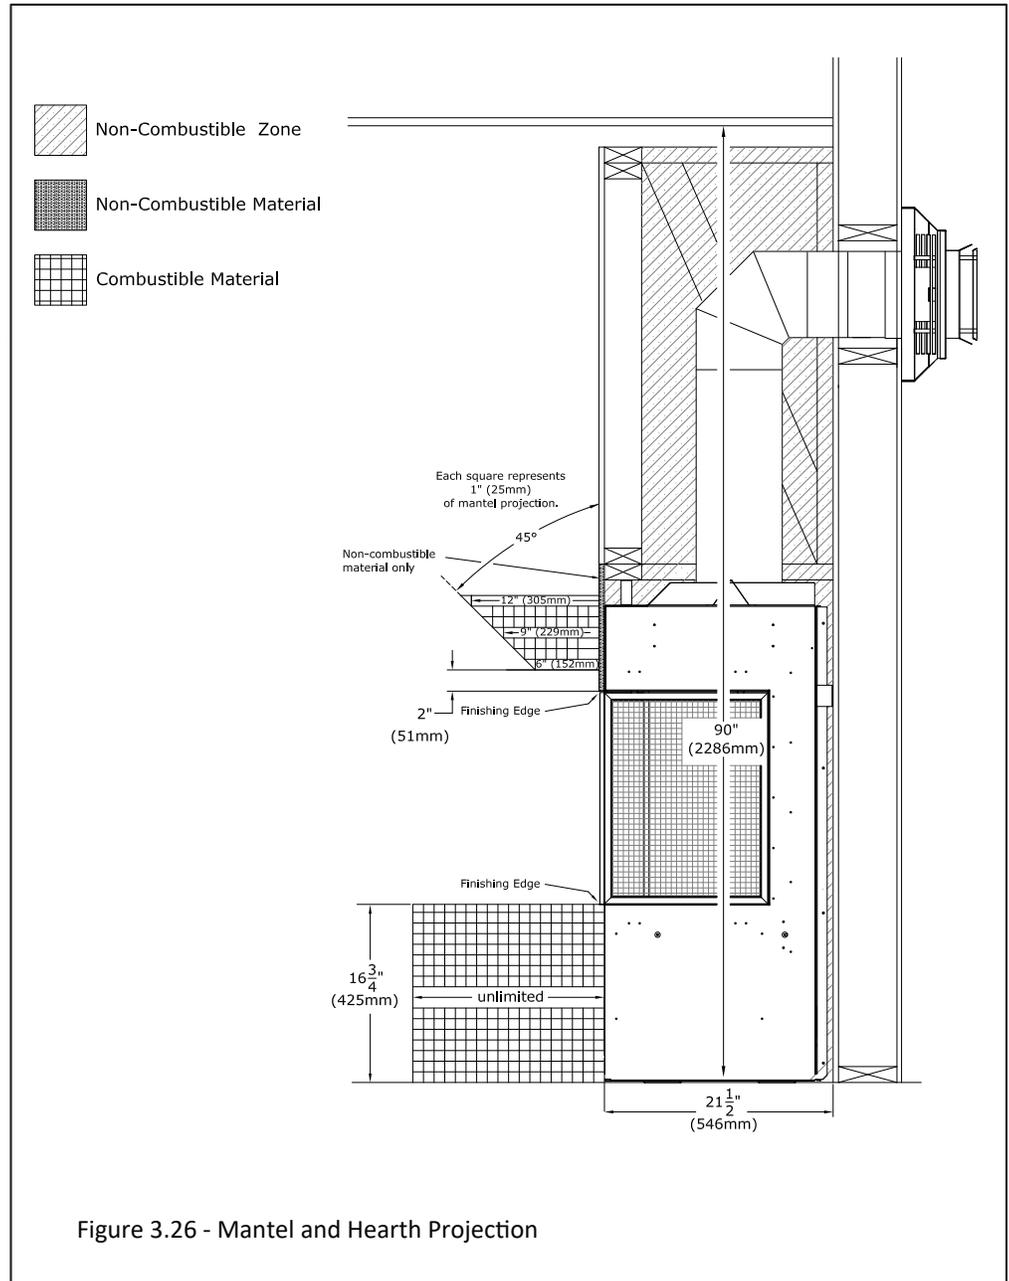

Figure 3.26 - Mantel and Hearth Projection
- **Combustible Mantel Projections:** A maximum of a 6" (152mm) mantel can be installed at 2" (51mm) above the side and top finishing edge. Mantel projections can increase 1" (25mm) of depth for every 1" of height starting at the 6" (152mm) mantel. See Figure 3.26.
- **Combustible Hearth:** Combustible hearth can have an unlimited projection. Hearth can be raised flush to the bottom finishing edge. See Figure 3.26.